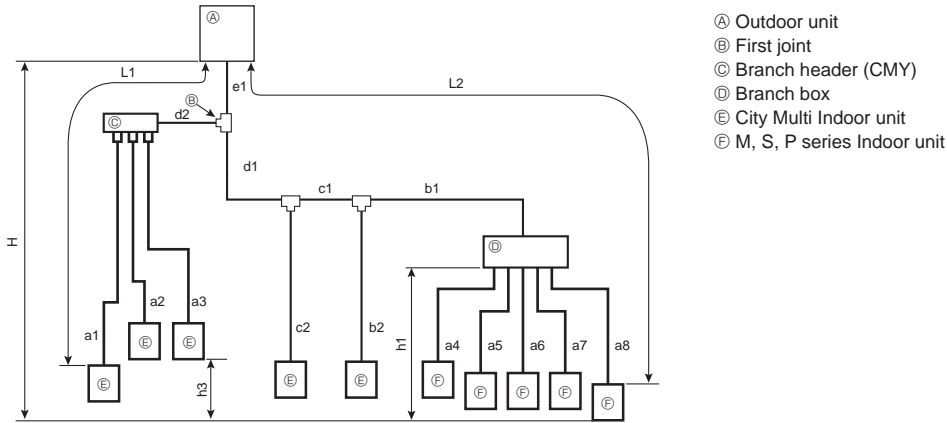

Fig. 4-6 (a)
4.1.3. Mixing system (City Multi indoor units and M, S, P series indoor units (Connection with Branch box)) (Fig. 4-6)